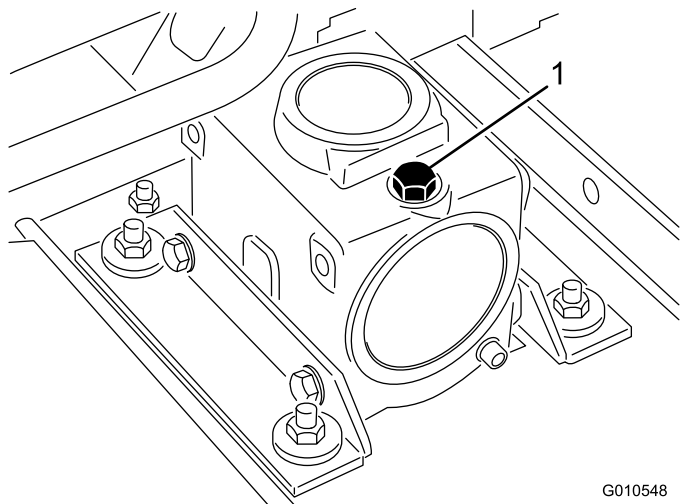

Figure 16
2. Position the machine and cutting unit on a level surface and lower the cutting unit. Remove the dipstick/fill plug from the top of the gear box (Figure 16) and make sure that the lubricant is between the marks on the dipstick. If the lubricant level is low, add SAE 80-90 wt. gear lube until the level is between the marks. SAE 80-90 wt. synthetic gear lube may be used as an alternative.